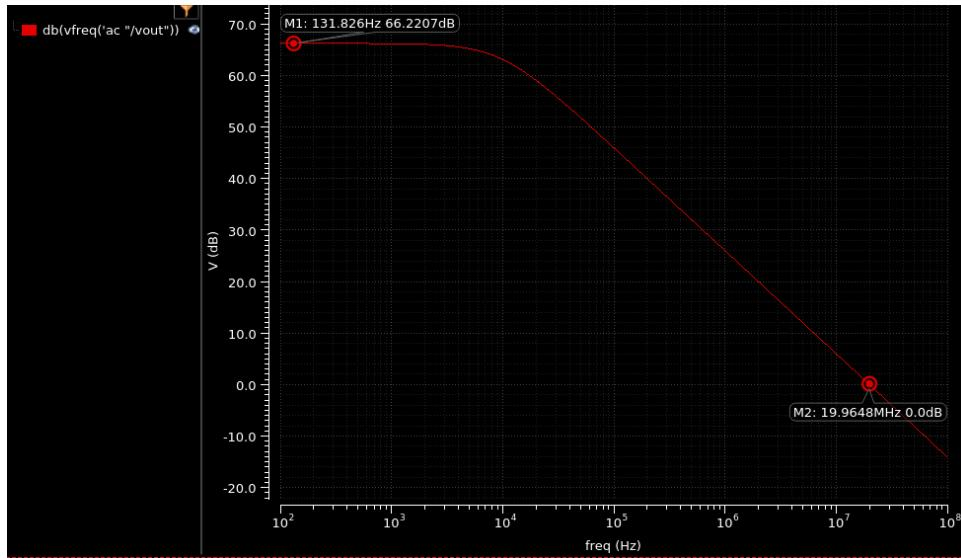

Fig. 6. Frequency response of  $v_{out}$  AC magnitude
**Tip:** To view the simulation results, as introduced in TP1, click **Results>Direct Plot>Main Form** and select **vout** in your schematic. You can also use **Outputs>Add>Expression** and type the expression as follows, which will plot the AC magnitude (in dB) frequency response after each simulation run, as shown in Fig. 6.
**Tip:** To create the marker as shown in Fig. 6, press “m”, and move the marker to where you want. To identify the UGB point, double click the marker, choose “by YMode” and type “0 dB” in the “Position”, so that the frequency point with 0 dB magnitude (UGB) is identified.